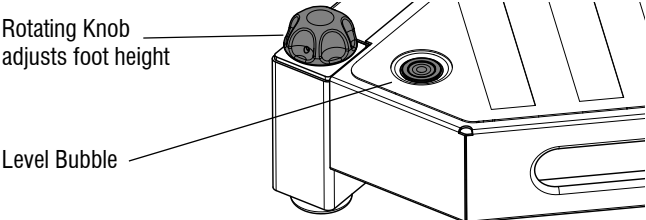

Figure 3-6. Detail view of level bubble
The base of the machine consists of two fixed wheels and two adjustable feet, for leveling and stabilizing the base within 2 degrees of level from front and back only. Prior to operation the adjustable feet are to be engaged to a point where the base is level as seen on the level bubble (Figure 3-6).
- 3. Turn the adjustable feet until the level bubble is centred (see Figure 3-6.)